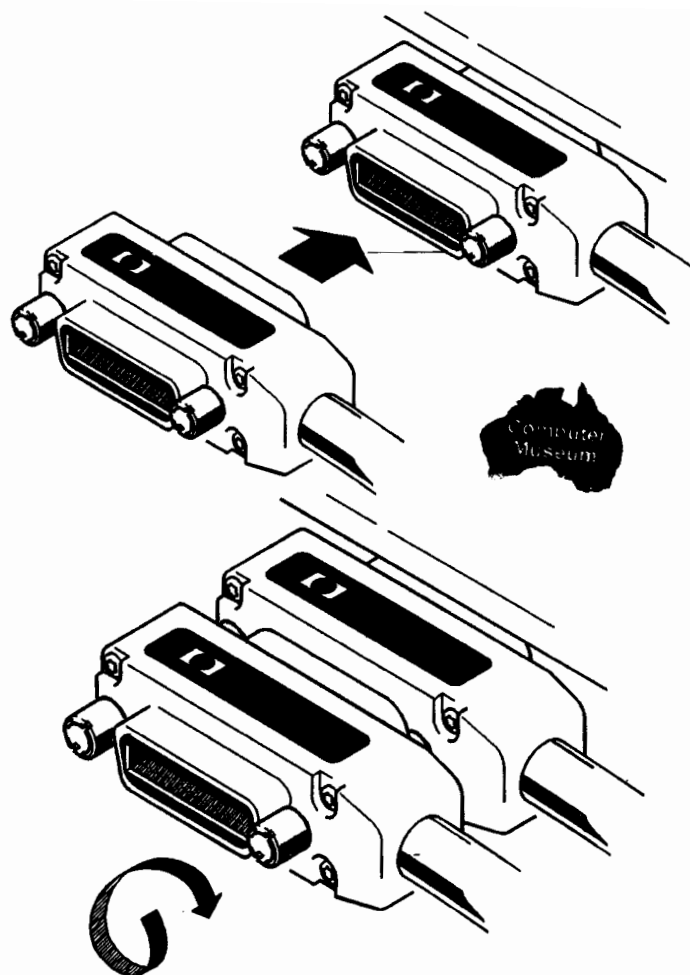

Figure 2-9. Stacking the Connectors.
3. Re-connect the HP-IB cable you removed in step 1 to the back of the connector on the HP 9144A, i.e. onto the back of the cable from the computer which you attached to your HP 9144A in step C. The plugs are designed to stack on top of each other as shown in *fig. 2-9*. If you need to connect a number of peripherals to your computer, we recommend that you connect them one to another in a linear configuration (like a chain) with the computer at the start of the chain. Do not connect peripherals to the computer in a star configuration (with a number of HP-IB cables all radiating from the computer). *Fig. 2-10* shows the difference between Linear (recommended) and Star (not recommended) configurations.